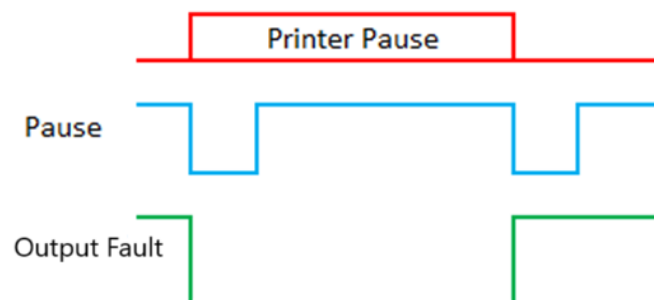

Figure 6
- The timing chart is shown in Figure 6.